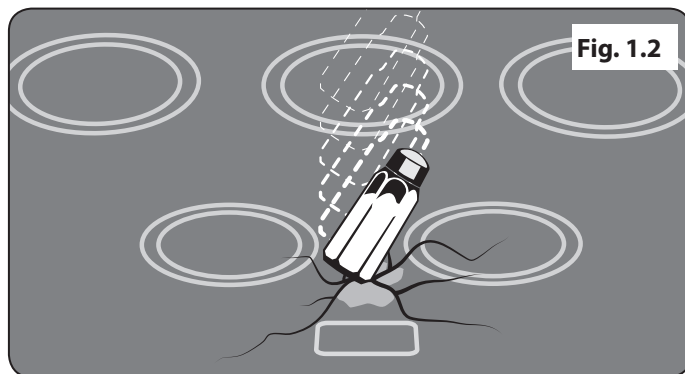

Fig. 1.2
- **DO NOT** stand or rest heavy objects on the hob. Although the ceramic surface is very strong, a sharp blow or sharp falling object (e.g. a salt cellar) might cause the surface to crack or break (**Fig. 1.2**).